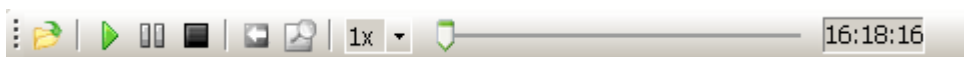

Figure 9-7 Logfile toolbar
- 2) Control the log file playback through the menu or the icons on the logfile toolbar, as shown in Figure 9-7.